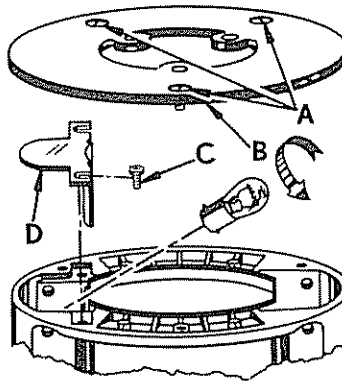

Fig. 13
3. Remove screws (A) and subbase (B). See Figure 13.